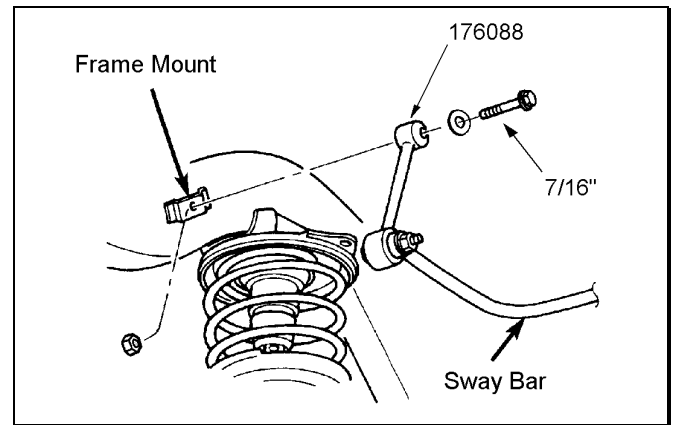

Figure 16
- 4) ☒ Attach the new end link assemblies to the frame brackets and rear sway bar with the hardware from kit 860155. See Figure 16. Tighten the end link mounting bolts to 40 ft. lbs.